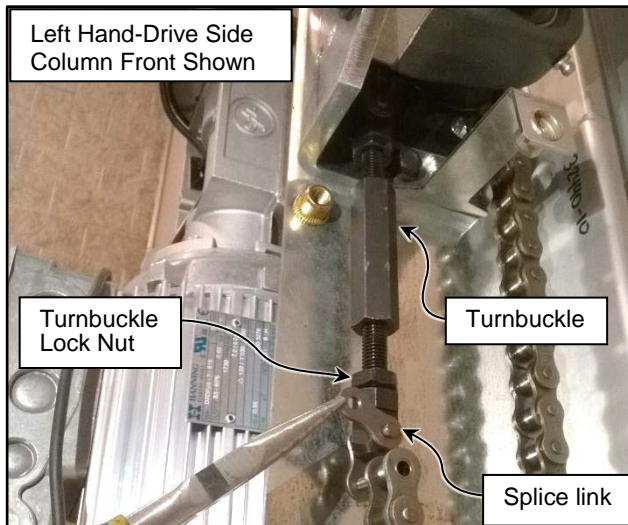
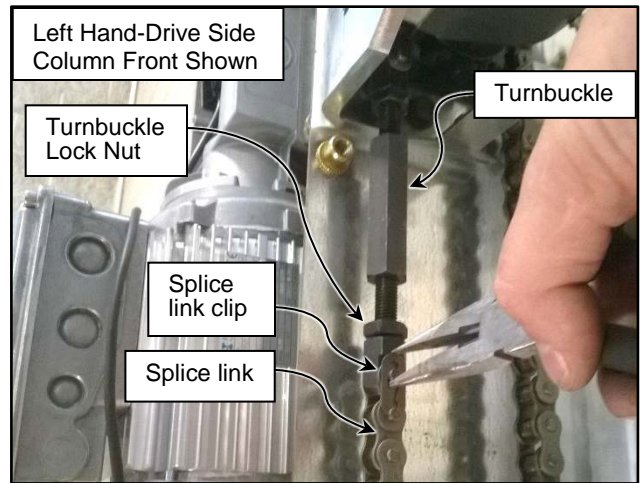

Figure 51
Figure 52
4. Connect the turnbuckle to each end of the chain with the splice links at the top drive sprocket as shown. Tighten up the turnbuckle by hand, then another 1-1/2 turns (with a wrench) until the chain is tight enough to prevent coming loose or jumping off the sprockets. (See Figure 51 and Figure 52)
- Tighten up the turnbuckle by hand, then another 1-1/2 turns (with a wrench) until the chain is tight enough to prevent coming loose or jumping off the sprockets. (See Figure 51 and Figure 52)